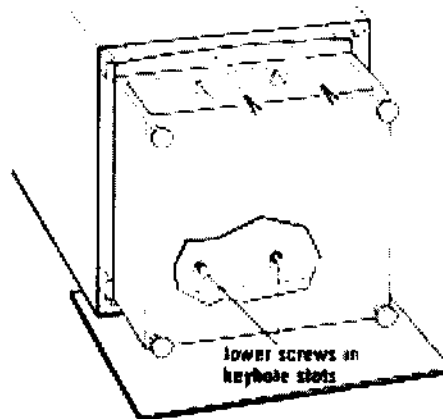

Fig. 1-5
5. Move the pedestal against the washer bottom. Slide the pedestal's keyhole slots over the lower two (2) partially installed screws. (Fig. 1-5)